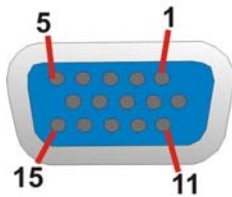

Figure 3-30: VGA Connector
- CN Pinouts:** See **Figure 3-30** and **Table 3-9**